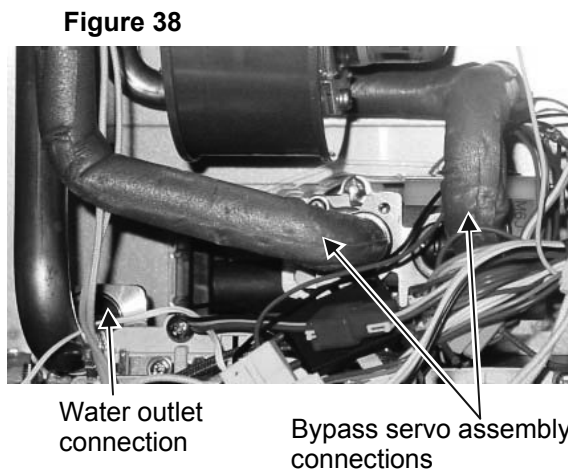

Figure 38
Disconnect Water Lines (Figure 38)
21. Install the largest O-ring (included in kit) over the water outlet tube and the two smaller O-rings (included in kit) over the bypass servo tubes. (Figure 38)
Connect Water Lines (Figure 38)